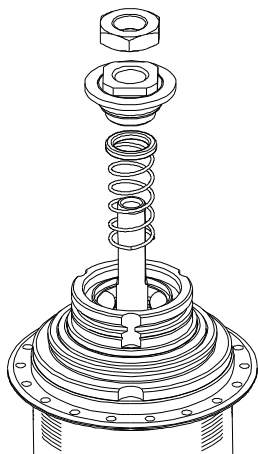

Fig. 2
5. See (Fig.2). Clamp the left hand end of axle in the vice and remove right hand cone locknut, spacers (if any), lockwasher, cone and spring with cap. Lift off ball ring and ball cage assembly, together with the driver assembly. Separate the driver assembly from ball ring by compressing pawls and extracting the driver assembly through ball ring.
3. (See Fig. 2). Fit the ball ring assembly then driver assembly compressing pawls to ensure driver ball track seats correctly on ball ring. Fit spring then cap.